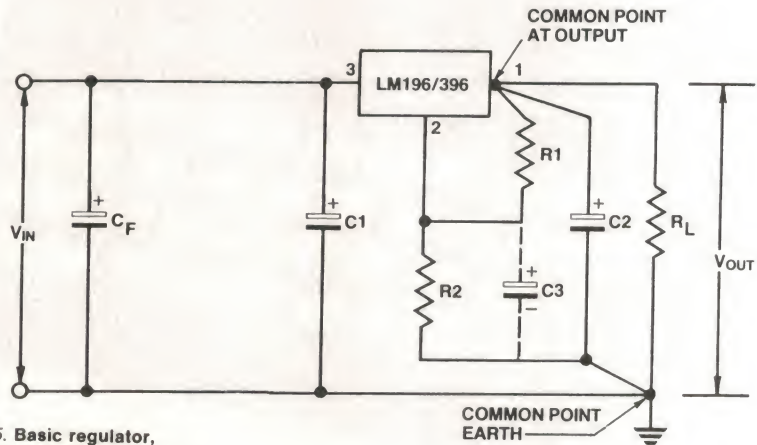

Figure 5. Basic regulator,
2. directly to the output of the regulator as shown in Figure 5.
Components in Figure 5.